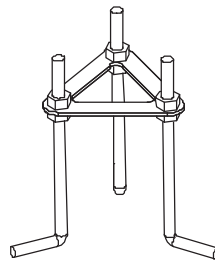

Fig. 3
1. Prepare site. Get the anchor bolt carrier assembled as shown in **Fig 3** and use it to determine placement of anchor bolts in concrete.